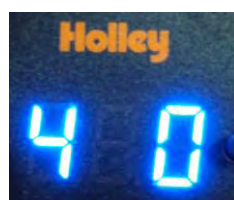

Figure 7
- SETTING 4** - This setting is used for the LED Bar Mode (BLUE - GREEN - YELLOW - RED). You can choose from 8 options - **0** = Dot mode, **1** = Standard Bar, **2** = Split Bar Type #1 (would be used for a Boost/Vacuum display), **3** = Split Bar Type #2, **4** = Split Bar Type #3, **5** = Reverse Bar, **6** = Wide Dot, **7** = Bar/Junction Mode #1, **8** = Bar/Junction Mode #2. **Figure 7** shows that this is the 4th setting and Dot Mode was chosen.